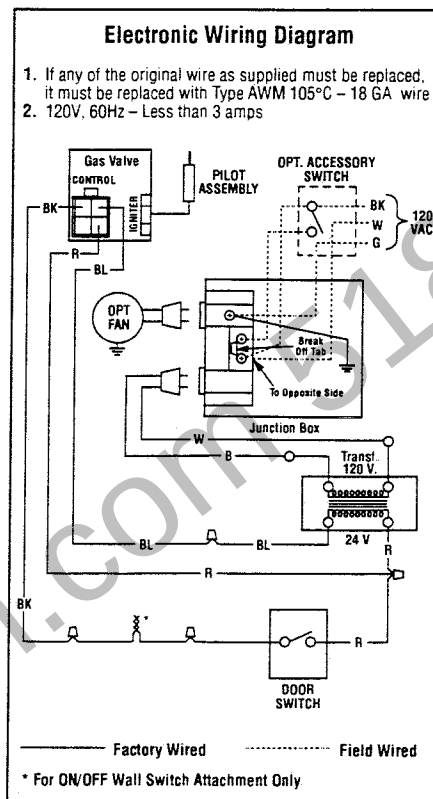
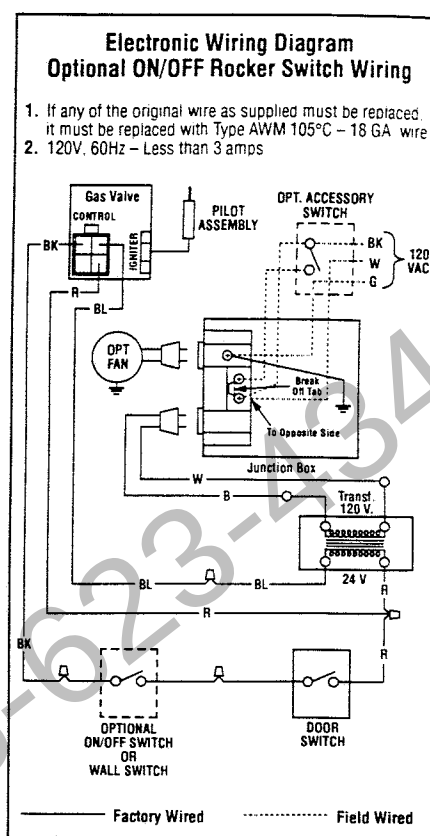

Figure 44
Figure 45
Step 7. Field Wiring Electronic Appliances – Regardless of whether an optional forced air blower kit (Figure 44) is to be installed now or sometime in the future, the appliance must be connected to the main power supply. To install, route a 3-wire 120V 60Hz power supply to the appliance junction box (located in the lower front (valve side) of the appliance, at the vent end) and ground. Also, at this time you may wish to locate and install an optional low voltage (24V) wall switch (Figure 45) in the desired location, connect the low voltage wire to this switch. For blower wiring, refer to the installation instructions provided with the forced air kit and the following paragraphs.
Note: The optional rocker switch is mounted to the appliance and wired in the same way as the remote wall switch (Figure 45).